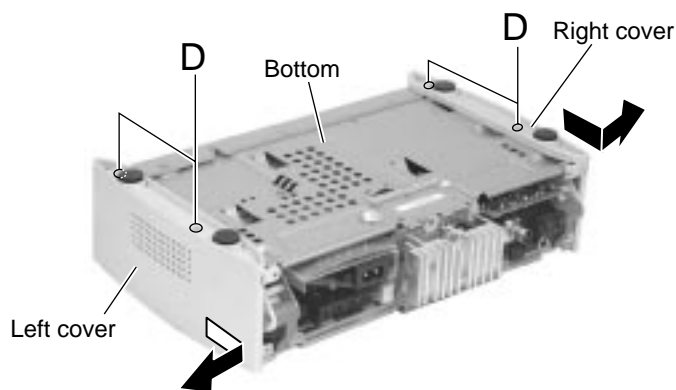

Fig.3
■Removing the right and left covers (See Fig.3)